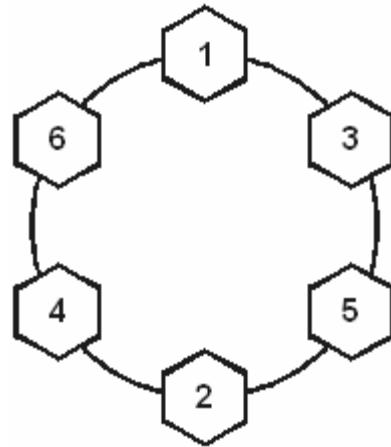

Figure 4-4. Wheel Nut Tightening Sequence
- Check for correct wheel nut tightening sequence, Refer to Figure 4-4.